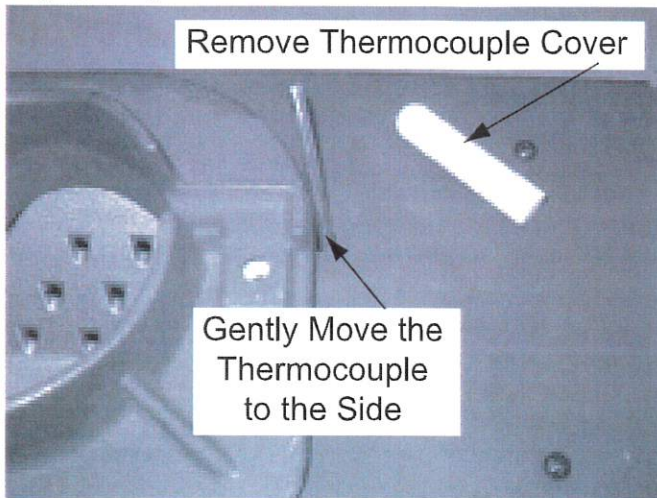

Figure 5
6. Gently move the thermocouple and ceramic tube off to the side, being careful not to damage the parts. Remove the fire pot from the fire pot riser assembly (Figure 5).